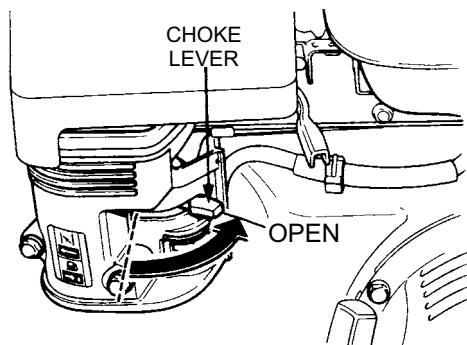

Figure 17. Choke Lever (Open)
- If the choke lever was moved to the "**CLOSED**" position to start the engine gradually move it to the "**OPEN**" position (Figure 17) as the engine warms up. If the engine has not started repeat steps 1 through 6.